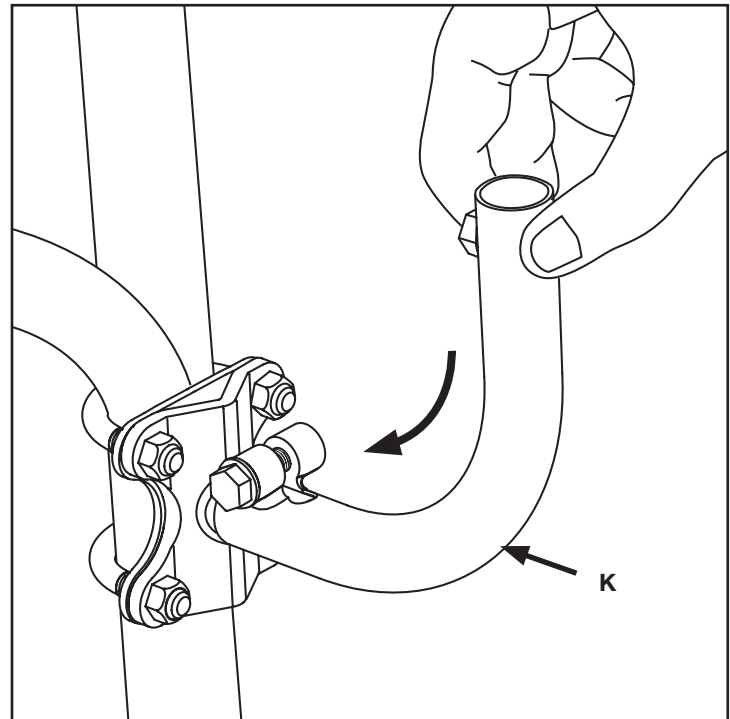

Fig. 3
### INSTALL THE LOWER MOUNTING POSTS (FIG. 3)
3. Insert lower mounting posts [K1, K2] into mounting post clamps as shown. Snug but do not fully tighten. Leave the nuts loose for final adjustments of the mounting posts. (Fig. 3)